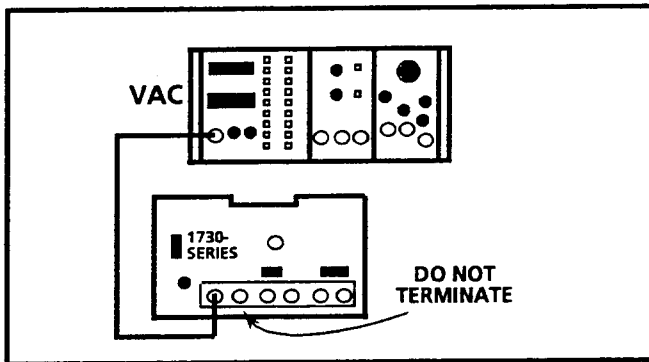

Fig. 5-17. Test equipment hook-up for setting calibrator amplitude.
- a. Connect the VAC signal to the 1730-Series CH-A INPUT; do not terminate. See Fig. 5-17.